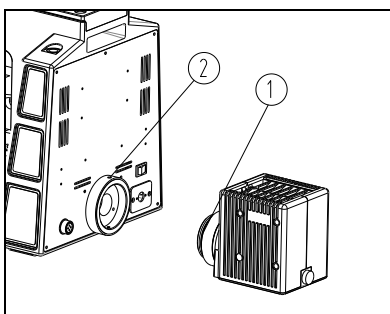

Fig.3
Push the light source holder① into the body holder, Make the light source group to be horizontal with the body group and lock the screw②. (See Fig. 3)